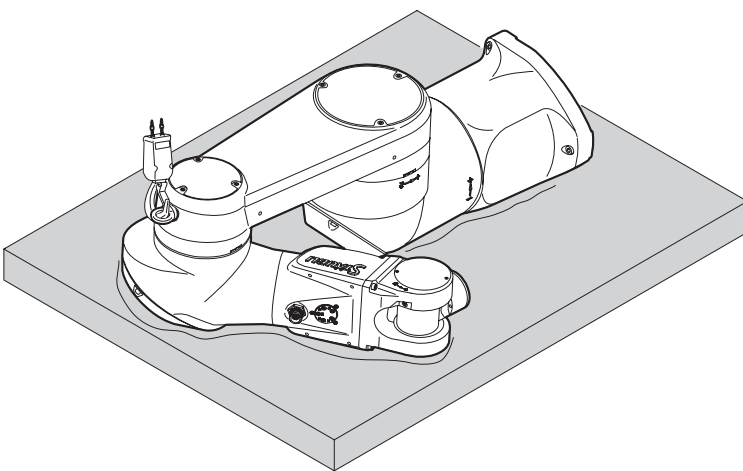

Figure 3.6
- Carefully lay down the arm on a flexible support as shown on figure 3.6.